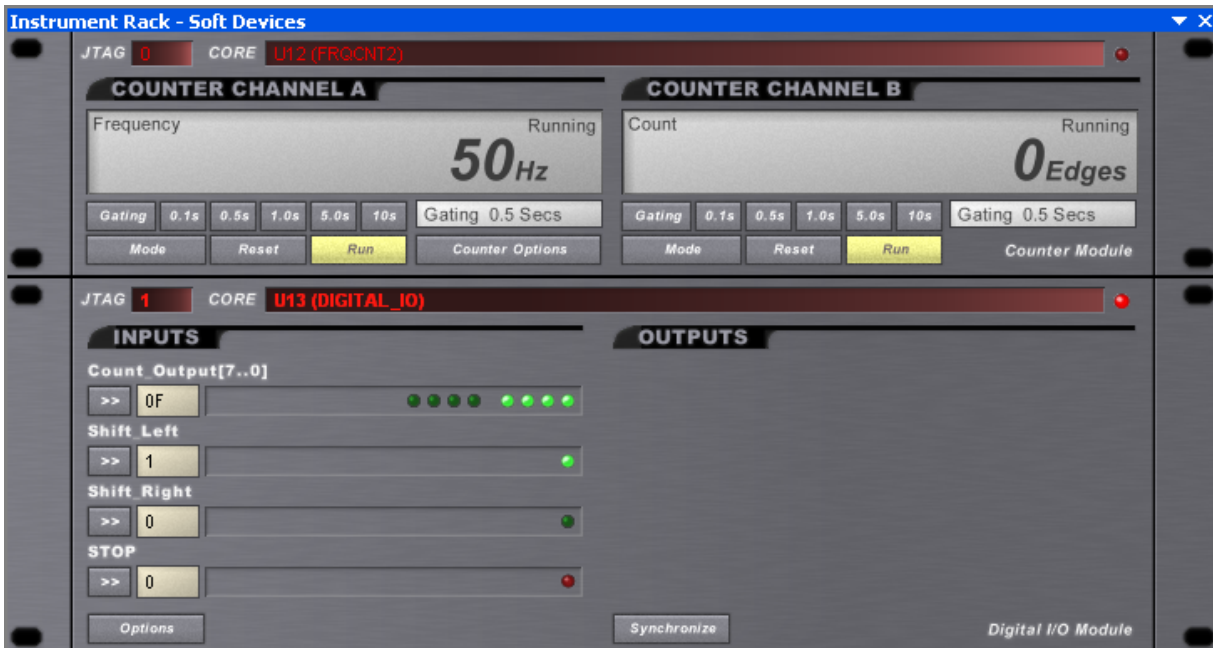

Figure 41. Respective instrument control panels for the frequency counter and digital IO module.
- Double-click on the icons for both instruments, to display their associated instrument panels in the **Instrument Rack – Soft Devices** panel (Figure 41). These panels provide the necessary controls and displays for interacting with the instruments in real-time.